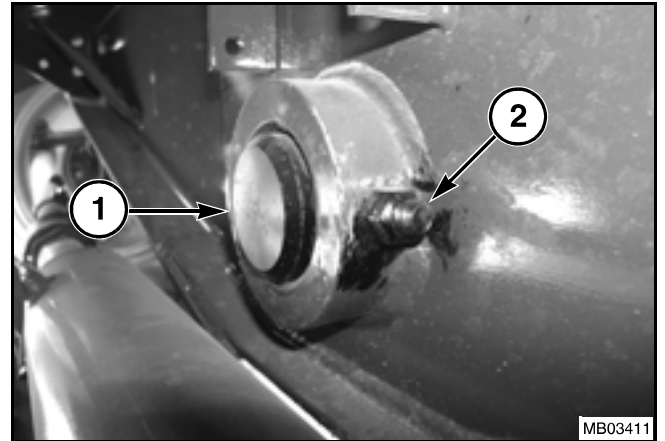

FIG. 34
FIG. 34: Lift the axle assembly with suitable lifting equipment located under the pivot pin center line of the center section until the weight of the axle is removed from the pivot pin (1).